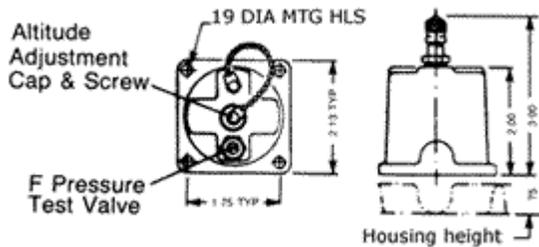

Figure 1
3.08 The transducer may be tested while mounted to the Transducer Housing or by itself. The transducer is equipped with an altitude adjustment screw which is located under the protective knurled cap at the top of the transducer (See Figure 1). The altitude setting is normally factory set at sea level. If the location at which transducer is being installed is at an altitude greater than sea level, adjustment is required. To test and adjust the transducer, proceed as follows:
3.09 As new cables are added, additional Model 100-F (Figure 1) transducers may be installed in the vacant cavities in the transducer housings, as follows: